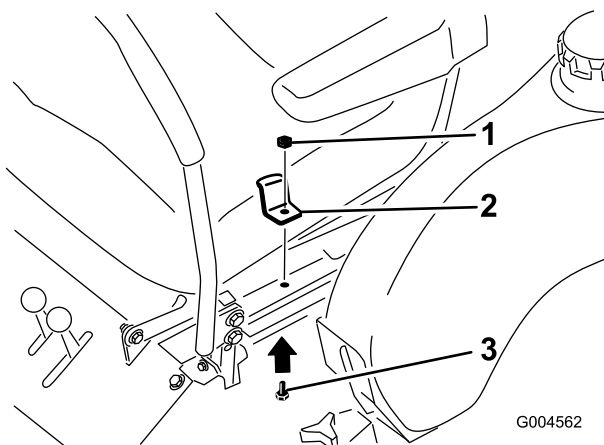

Figure 19
1. Remove the seat retaining bracket (Figure 19).
4. Lower the seat and secure the seat with the seat retaining bracket (Figure 19).